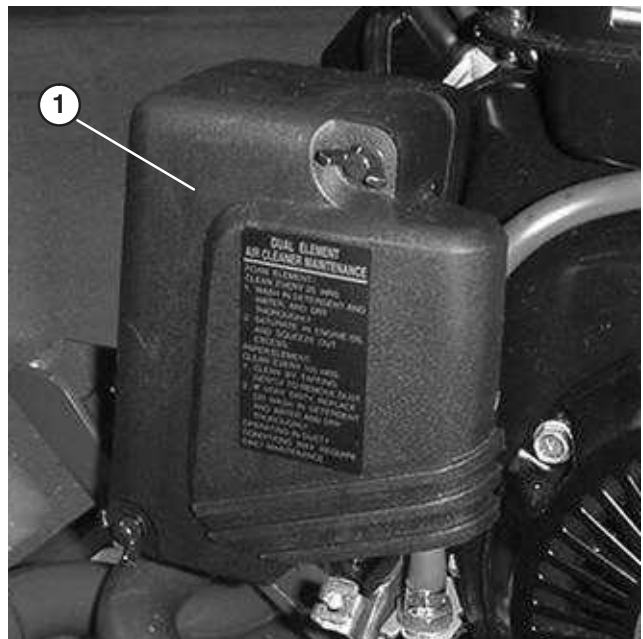

Figure 30
2. Remove wing nuts securing air cleaner cover to air cleaner and remove cover. Clean cover thoroughly (Fig. 30).